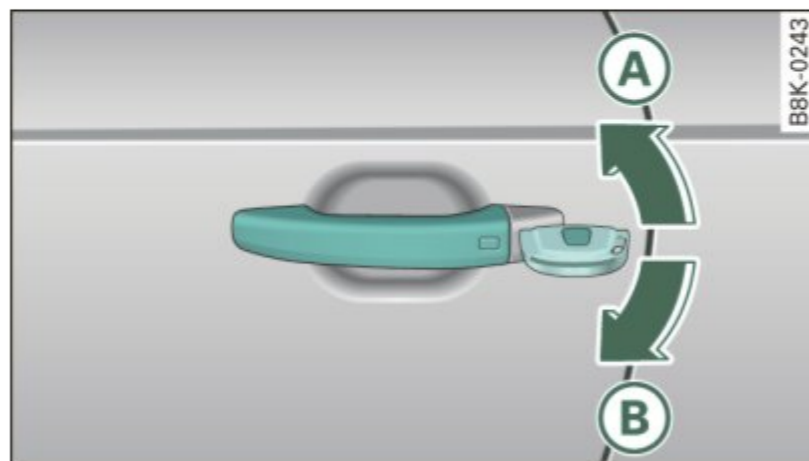

Fig. 45 Key turns for opening and closing
- Turn the key to position ⇒ fig. 45 **A** until all the windows have reached the desired position and the panoramic tilting sunroof is tilted.